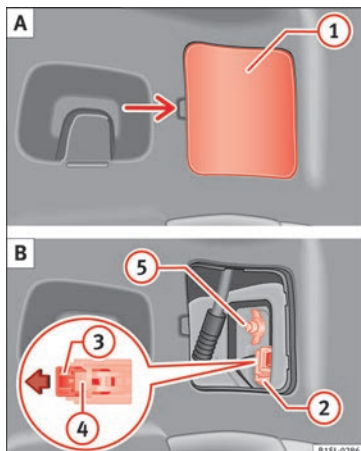

Fig. 88 On the side of the luggage compartment: A: Remove the cover, B: Removing the tail light units
2. Carefully remove the cover **1** towards the lever **»» Fig. 88 A**.
3. Pull the release **3** in the connector **2** in the direction of the arrow **»» Fig. 88 B**. Use the screwdriver in the vehicle tool kit.
4. Press position **4** and remove the connector **2** **»» Fig. 88 B**.
- Unscrew the wing nut (5) » Fig. 88 B.
- Support the tail light with one hand in the assembly position and securely screw the wing nut with the other (5) » Fig. 88 B.
- Insert the connector (2) into the bulb holder and press the lock (3) on the connector in the opposite direction to the arrow » Fig. 88 B.